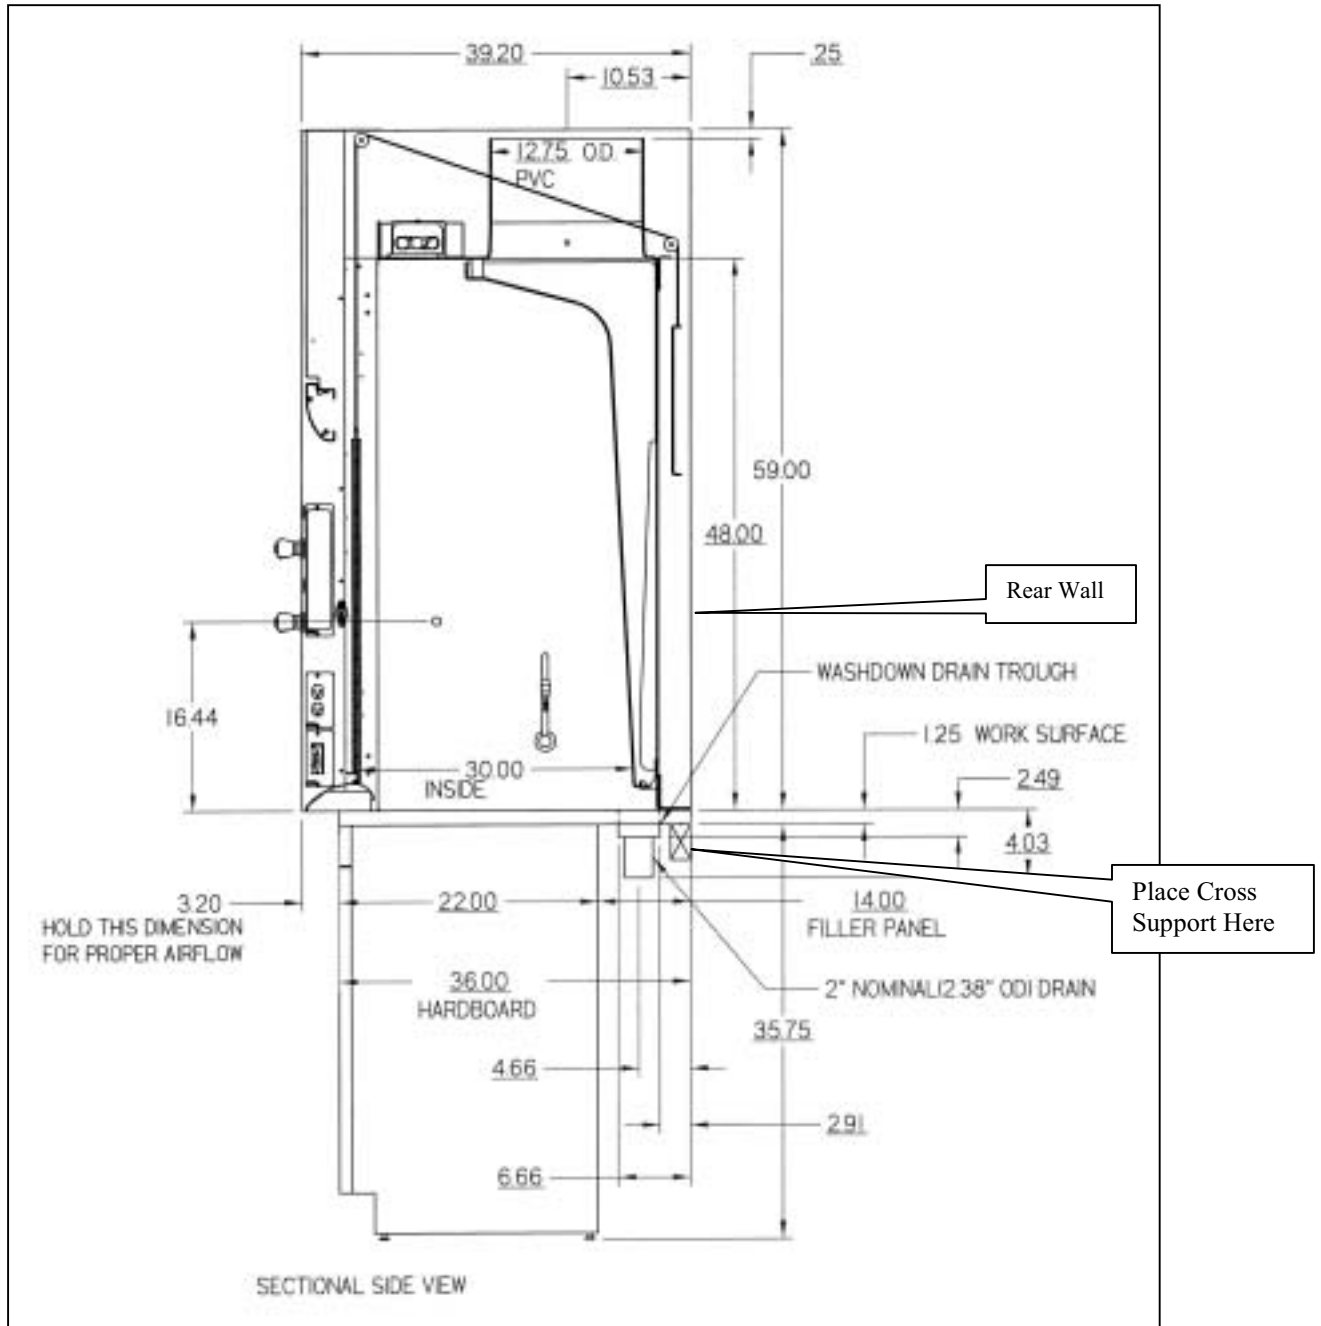

Figure 3-2
1. Level the base cabinets and the hardboard surface. The hardboard surface should be placed flush with the back of the fume hood as shown in Figure 3-2. The hardboard surface has a cutout to allow for clearance around the rear washdown drain trough.
5. Secure the hardboard surface to the top of the base cabinet(s) using adhesives with the Solvent Storage Cabinets(s) or mechanical fasteners with the Acid Storage Cabinet(s). Be sure the PVC Hood drain trough is accounted for in the relief area of the hardboard top. See figure 3-2.
The Protector PVC Hood has been supplied with a 2" nominal (2.375" OD) PVC pipe drain. Connect the 2" pipe to your floor drain. Be sure the connection is either fully solvent bonded or leak tight. See Figure 3-2.